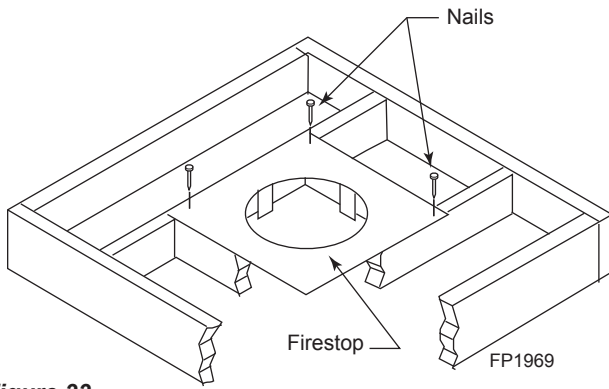
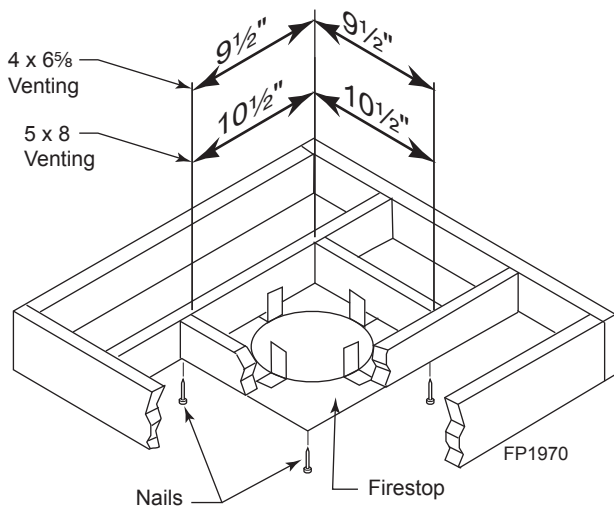

Figure 33 -
Figure 34 -
1. Cut a 10½" (267mm) square hole in the ceiling using the locating hole as a center point. The opening should be framed to 10½" x 10½" (267 x 267 mm) inside dimensions as shown in *Figure 34* using framing lumber the same size as the ceiling joist. If the area above the ceiling is an insulated ceiling or a room, nail firestop from the top side. This prevents loose insulation from falling into the required clearance space. *Figure 33*. Otherwise, install firestop below the framed hole. The firestop should be installed with no less than three nails per side. *Figure 33*
NOTE: If an offset is needed to avoid obstructions, you must support the vent pipe every three (3) feet. Use wall straps for this purpose. See Figure 33, page 26. Whenever possible, use 45° elbows instead of 90° elbows. The 45° elbow offers less restriction to the flow of the flue gases and intake air.